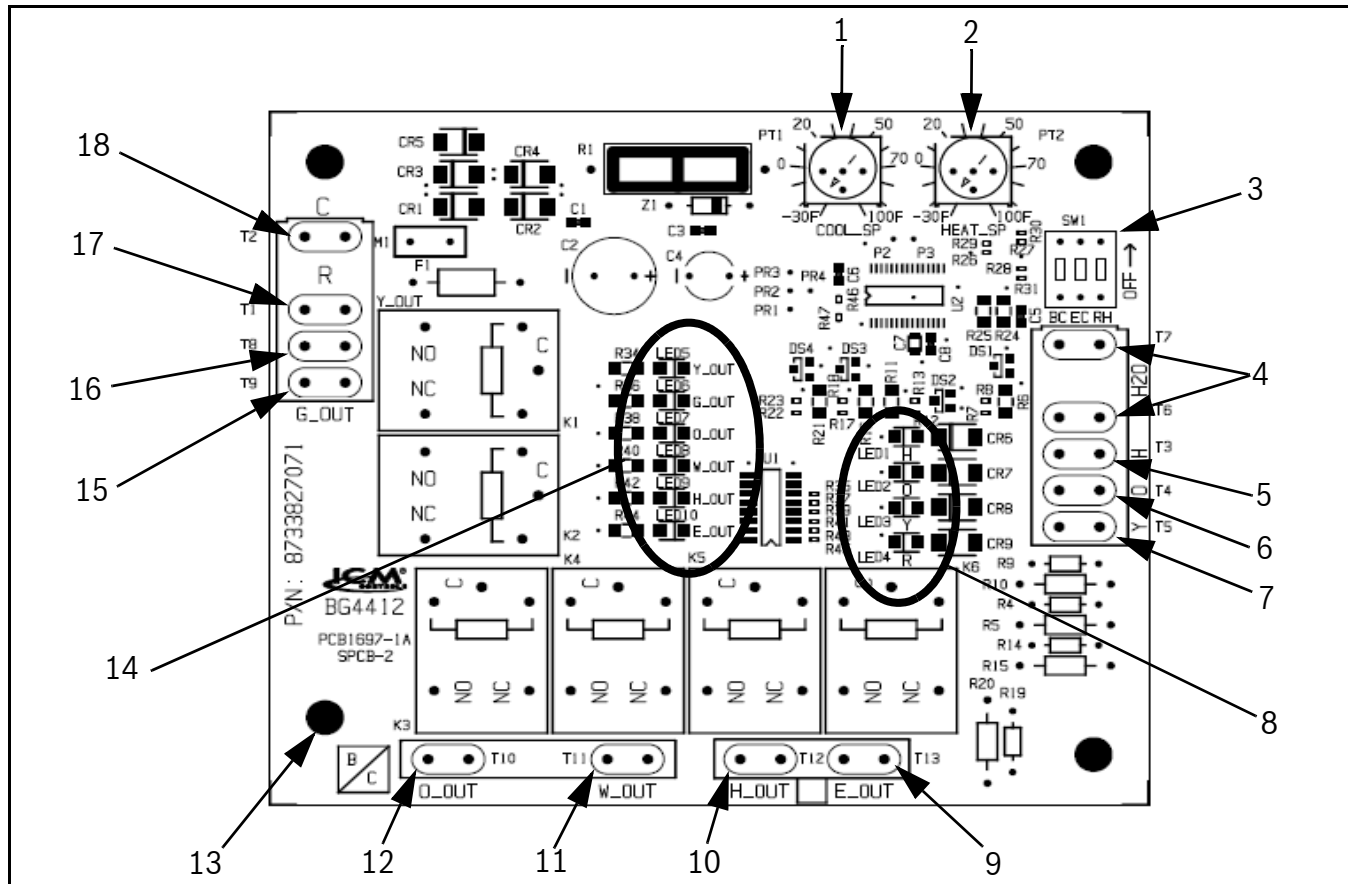

Fig. 23 Option Card
- ▶ Validates that Operating Mode Dip Switch SW1 (→Refer to Fig. 23) position "2" is in the "ON" position.
- Units with Option Card: The Cool Set Point Potentiometer (→Refer to Fig. 23).
- ▶ Validate that Operating Mode Dip Switch SW1 (→Refer to Fig. 23) position “3” is in the “ON” position.
- ▶ The heat pump will run in Hot Gas Reheat mode **ONLY** when cooling demand is satisfied and the unit thermostat calls for humidity (H) when the level of humidity is above the desired set point specified either by the:
- ▶ Validates that Operating Mode Dip Switch SW1 (→Refer to Fig. 23) position “1” is in the “ON” position.
- (For Units with Option Card)—The Cool Set Point Potentiometer (→Refer to Fig. 23), or